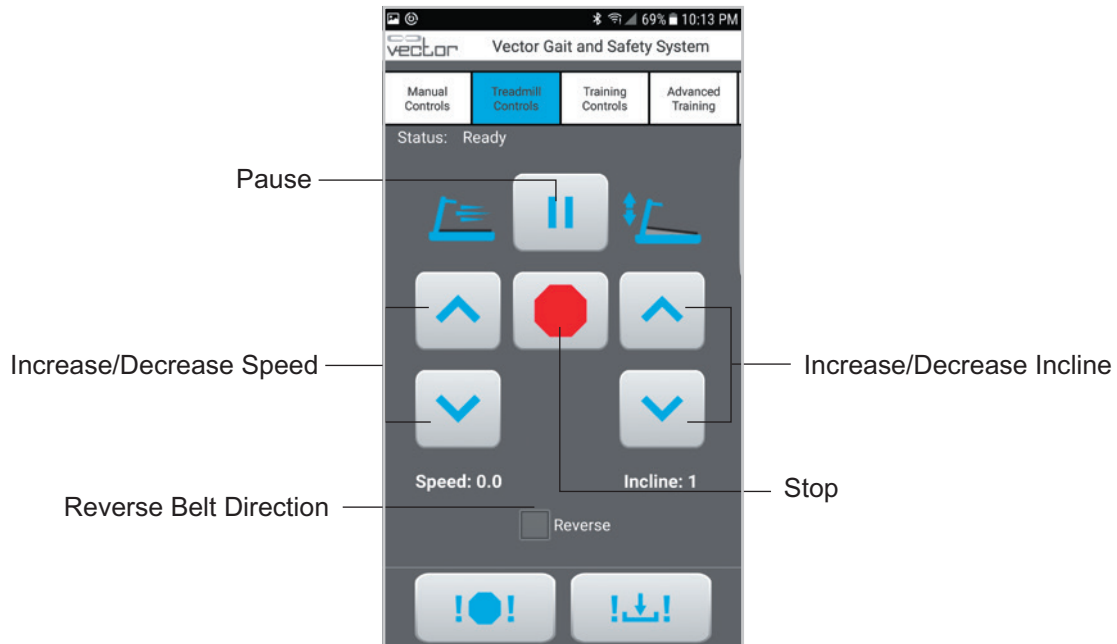

Figure 9-17: Treadmill Controls Screen with Treadmill On
7. The belt direction can be reversed by pausing the treadmill session, then selecting the Reverse check box. See Figure 9-17.